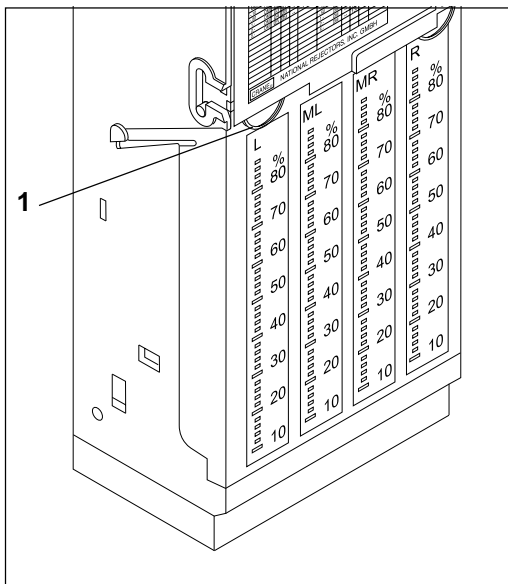

Fig. 13: Remove tube covering
- Remove tube cover towards the front by means of the recesses (1) (fig. 13).
- Remove tubes (see "Exchanging tubes" in ch. 13, fig. 13–16).